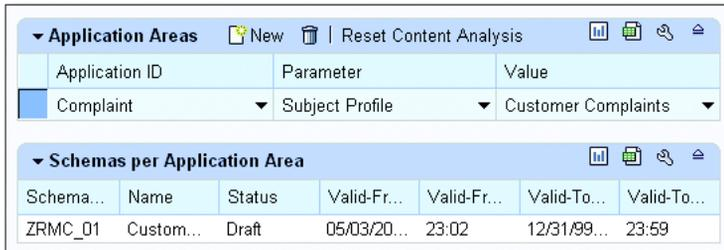

Figure 4.117 Defining the Application Area and Assigning It to the Categorization Schema
7. In the APPLICATION AREAS section, while creating the categorization schema, assign the APPLICATION ID with a PARAMETER of SUBJECT PROFILE. In this case, ZEXP – CUSTOMER COMPLAINTS is configured as described previously and assigned with the same SUBJECT PROFILE, as shown in Figure 4.117. Within the SCHEMAS PER APPLICATION AREA section, you can see the same categorization schema with various statuses, including DEPLOYED, RELEASED, and ACTIVE, with corresponding VALID-FROM and VALID-TO information.